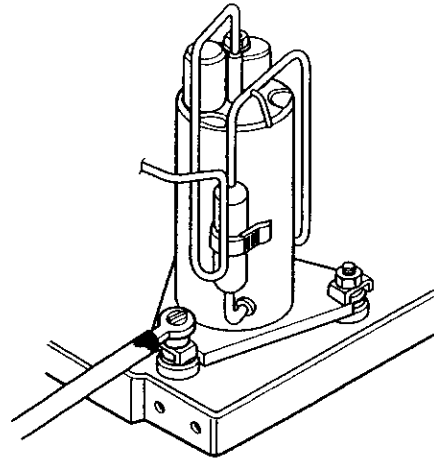

Figure 14
7. Re-install by referring to the removal procedure above. (See Figure 14)